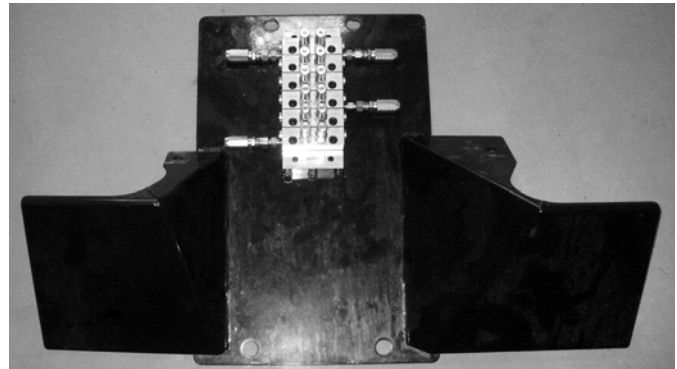

FIG. 21
4. Install Master Divider Valve to panel using bolts included in the kit (FIG. 21).